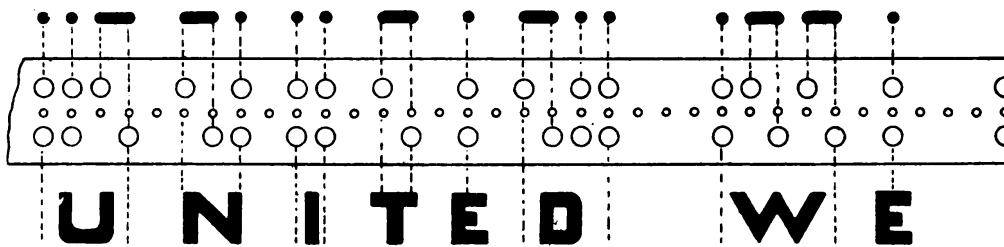

Figure 10. Wheatstone code perforated tape.
The signal elements (dots and dashes) appear in the tape (fig. 10) as double perforations. A center line of small perforations runs through the tape. Each signal element will have one signal perforation above the center line and one below. Two types of perforators are in use for preparing tape for the automatic transmitter.
a. Placing Tape in Auto Head. The tape is placed in the auto head to feed from right to left (fig. 9). It must pass across tape guide A which keeps it in alignment with tape-feed roller B and tape-feed spindle G. The tape passes through the auto head face up, in the position in which it is read (fig. 10). The *start* perforations are in, with respect to the auto head. The *stop* perforations are out, with respect to the auto-head.
11. INTRODUCTION (fig. 10).
(4) SPACE BETWEEN WORDS. Normally, spacing between words and groups is equal to seven dots. When the *stop* pin has ended a word, the *start* pin rises, finds no perforation; then the *stop* pin rises and finds no perforation. A second time the *start* pin rises and finds no perforation; the *stop* pin rises and finds no perforation. A third time the *start* pin rises and finds no perforation; the *stop* pin also rises and finds no perforation. At its fourth rise, the *start* pin passes through a perforation, and starts the signal of the next word. As illustrated in figure 10, this spacing between words is provided by three center-line holes with no perforations above or below them.